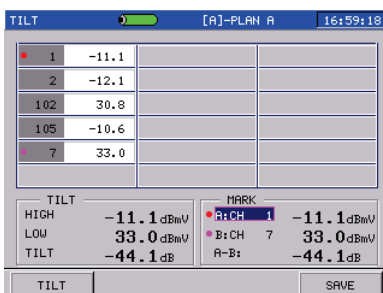

Figure 3-10-9
**MARK**: Turn the knob to select MARK A or MARK B, then press the knob, a purple frame will appear, as Figure 3-10-9. Now turning the knob can move the active MARK to another channel. Channel No., level and difference between two frequencies marker will be displayed at the bottom of screen. This will be helpful for you to easily get two channels' details and difference.